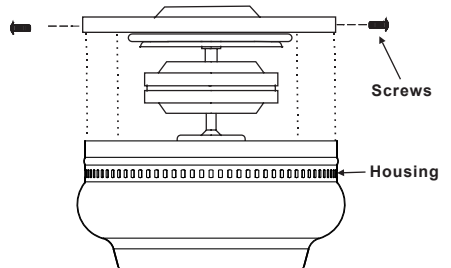

Figure 7
5. INSTALL THE DECORATIVE HOUSING over the motor assembly and secure with the four mounting screws. (Fig. 7)